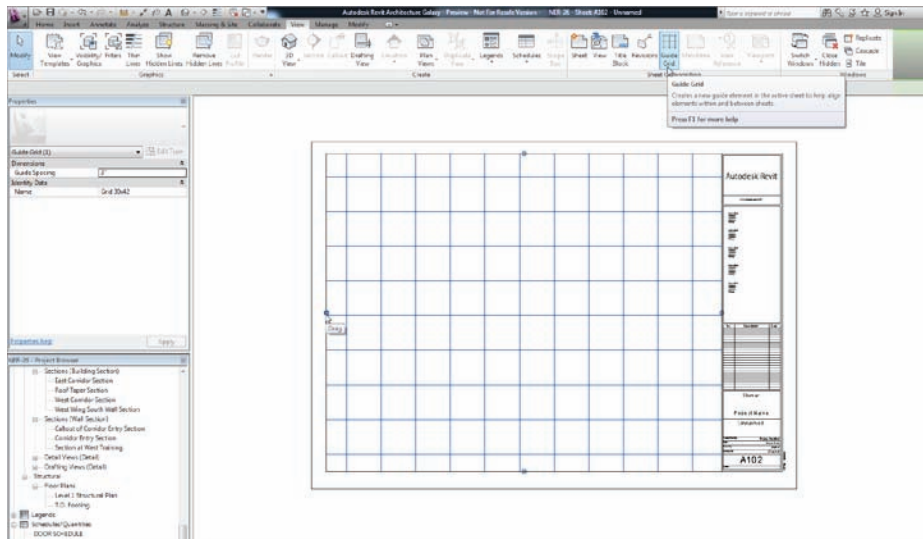

FIGURE 14.2 Adding a guide grid to a sheet.
1. On the View tab, click Guide Grid, as shown in Figure 14.2.
3. Select the guide grid, and drag it into place by using the blue grips (see Figure 14.2).
4. With the guide grid still selected, change Guide Spacing to 3" (75mm) in the Properties dialog (see Figure 14.2).